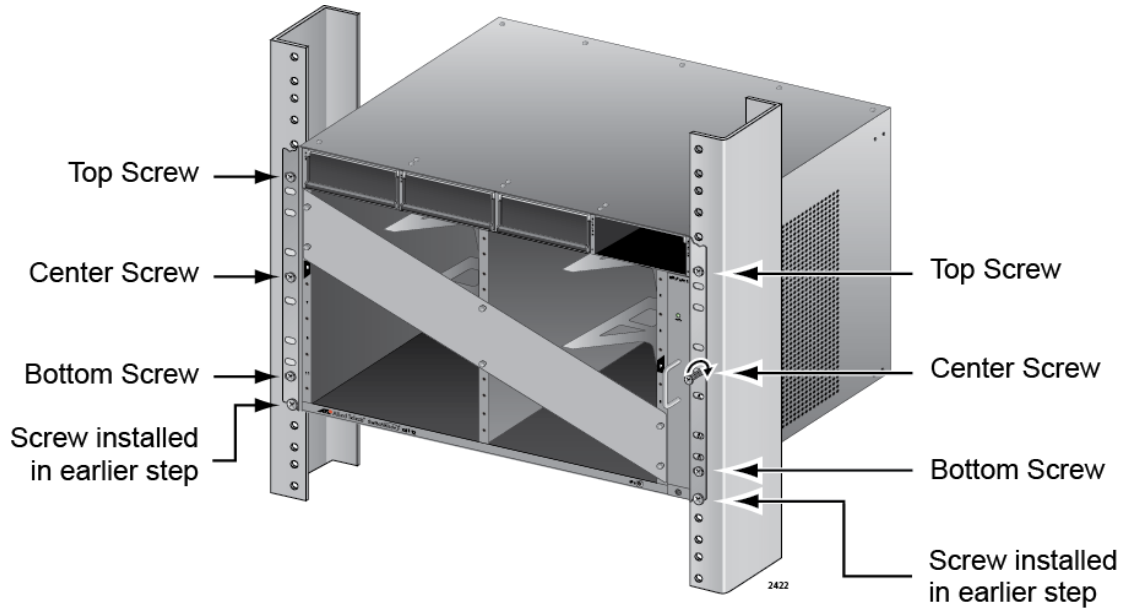

Figure 49. Installing the Rack Mount Screws
4. Install six rack mount screws (not provided) to secure the chassis to the equipment rack, as shown in Figure 49 on page 124.